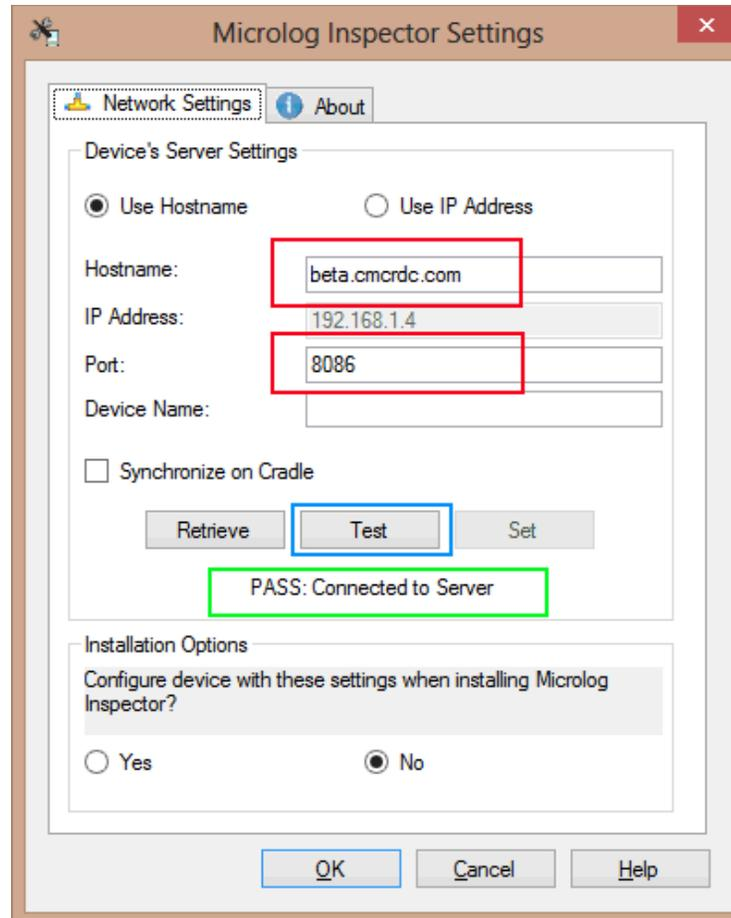

Figure 2. Server settings
- Input the server settings and press **Test** to test the connection. If the connection is successful, a **PASS: Connected to Server** message will be displayed. [Figure 2]